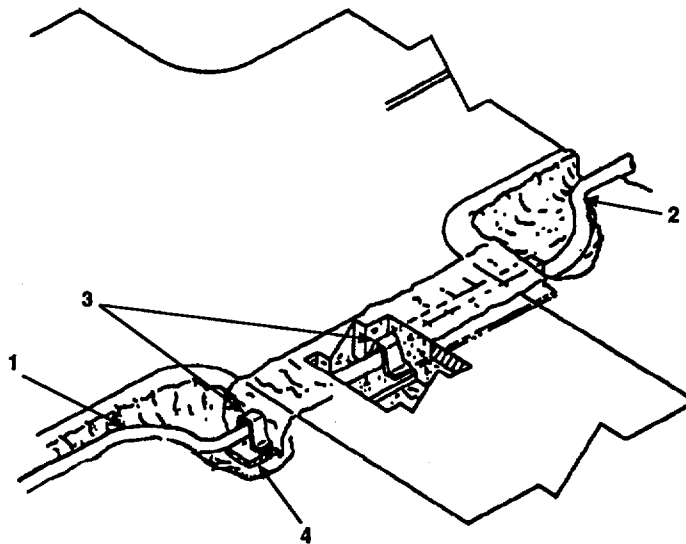

Figure 2-37. Road Crossing Guard Installation.
- a. Dig trench (Figure 2-37, 1) 18 inches deep across road.
- b. Engineering support is required if hoseline (2) is being run beneath a railroad bed.
- c. Lay hoseline (2) in trench (1).
- d. Position roadway crossing guards (3) over hoseline (2) at appropriate intervals. Nail guards (3) to planks (4) if planks (4) are used.